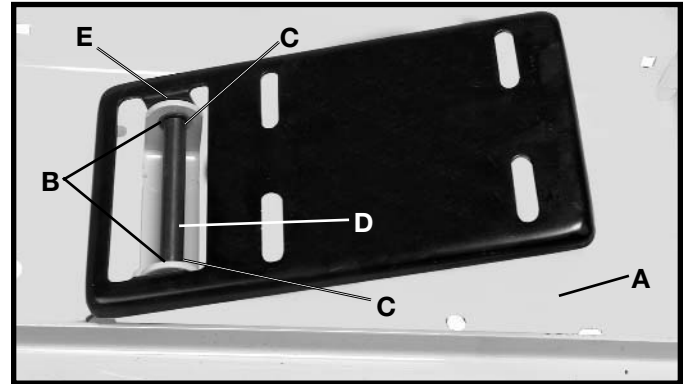

Fig. 11
2. Align the two holes in the motor mounting plate (E) Fig. 11, with the two holes (B) in the stand top (A).
3. Insert shaft (D) through the holes in the motor mounting plate and the holes in the stand top.
4. Attach the two “C” rings (C) Fig. 11 to the shaft.